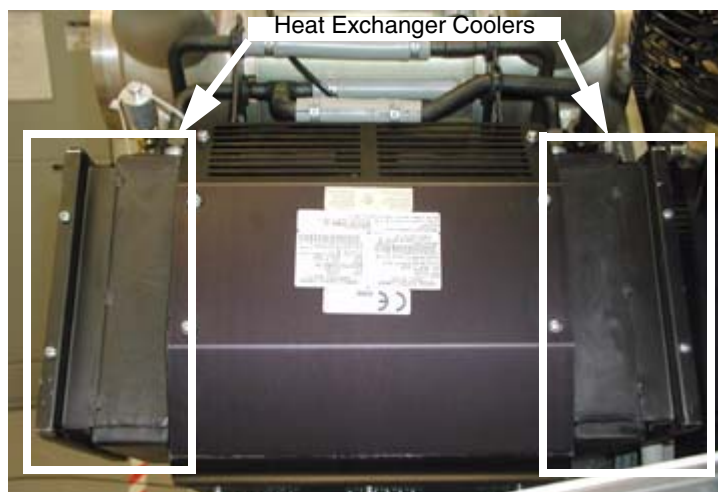

Figure 1 - Heat Exchanger Coolers
The Heat Exchanger coolers are located on the two ends of the heat exchanger. See Figure 1, below. There are eight (8) screws that mount the coolers (four (4) each), and each will be verified during this procedure.